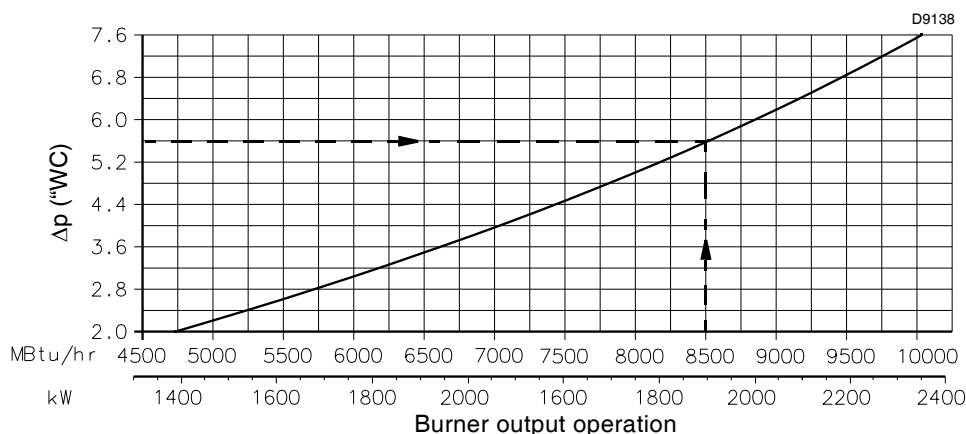
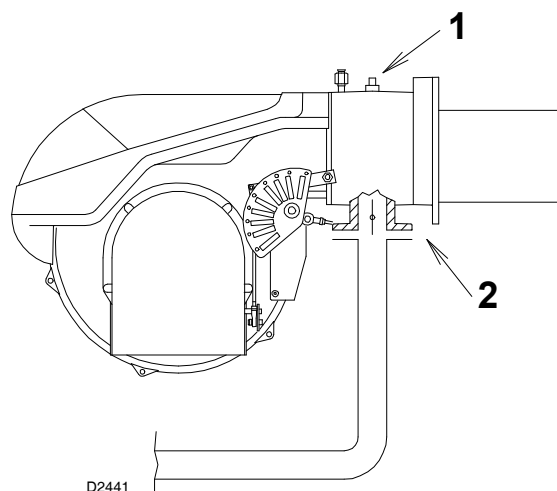

Fig. 20
Fig. 21
The diagram (Fig. 20) show minimum load losses at combustion head depending on the maximum burner output operation with natural gas (G 20).
Gas pressure is measured at the test point 1)(Fig. 21), with:
- subtract the combustion chamber pressure from the gas pressure measured at test point 1)(Fig. 21);
- find, in the diagram (Fig. 20) the pressure value closest to the result you want;
- Gas pressure at test point 1)(Fig. 21) = 6.8 "wc
To know the required gas pressure at test point 1) (Fig. 21), set the maximum output required from the burner operation, then:
- read, on the diagram (Fig. 20), the socket pressure 1) (Fig. 21);
pressure required at socket 1) (Fig. 21).